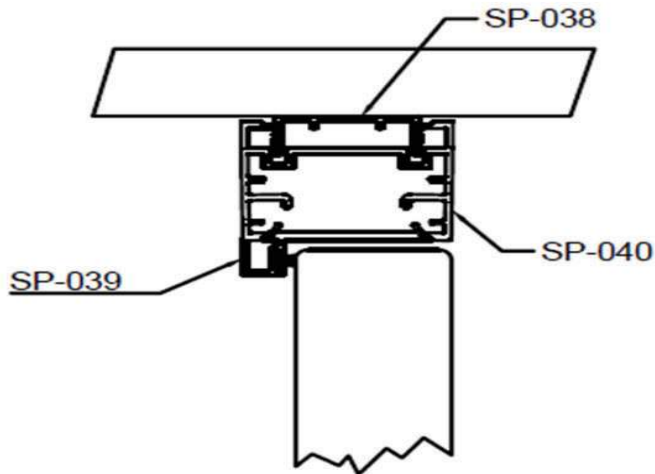

Figure 1: Detail Drawing 1
Step 1: Install horizontal and vertical base setting channels on three sides of opening (see fig. 1).